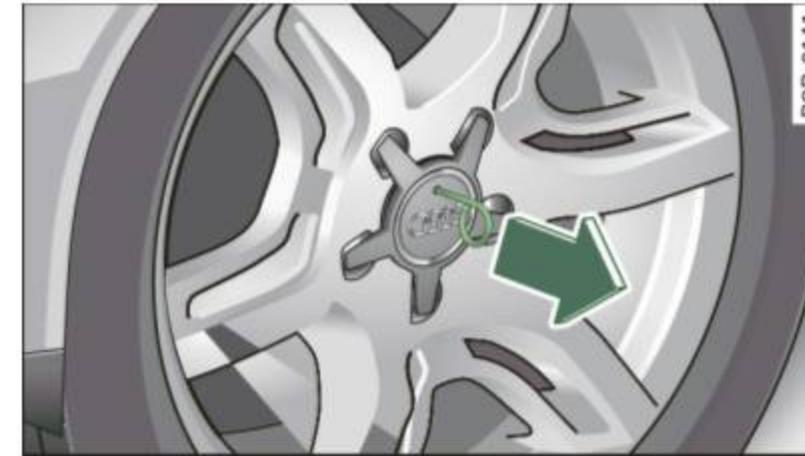

Fig. 220 Changing a wheel: Removing the wheel cover
- Pull off the **decorative wheel cover** ⇒ fig. 220. ■